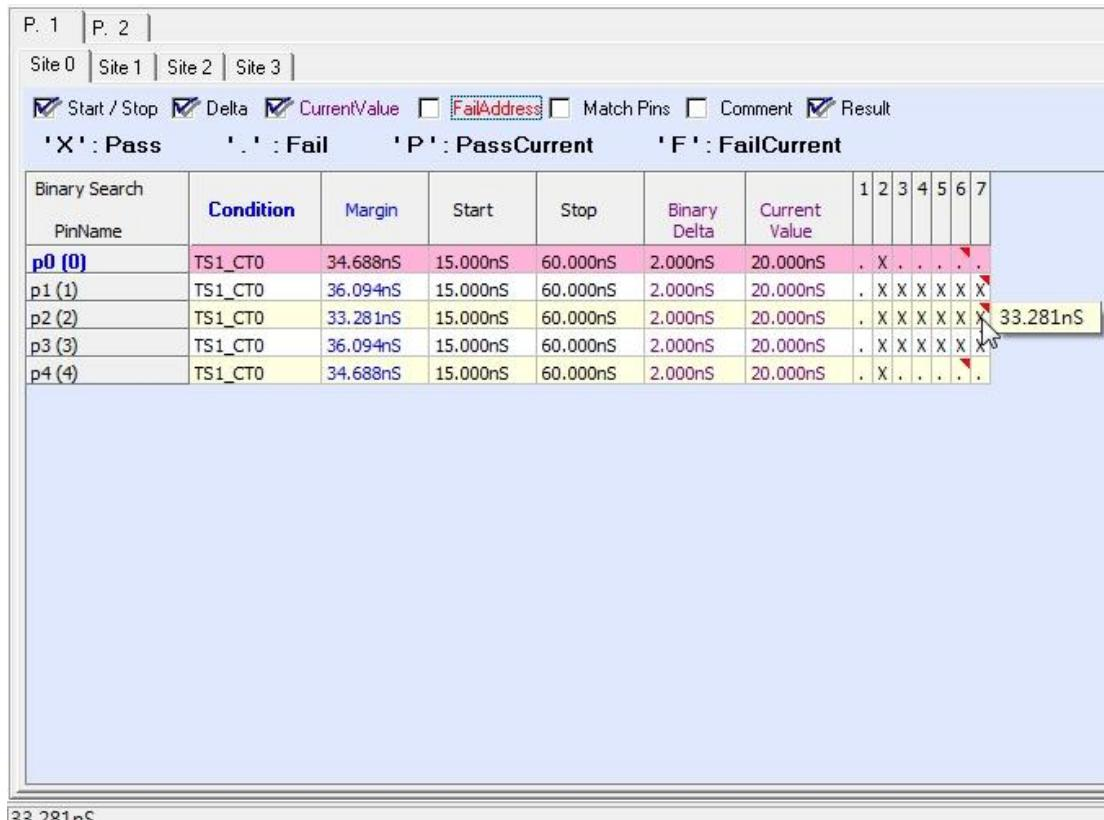

Figure 14-15 Pin Margin Plot Window (Binary Search)
The contents of (4),(5),(6),(7),(8),(9),(10),(11),(12) are all options, user can select these by checking the option in the top of plot area (Figure 14-15).